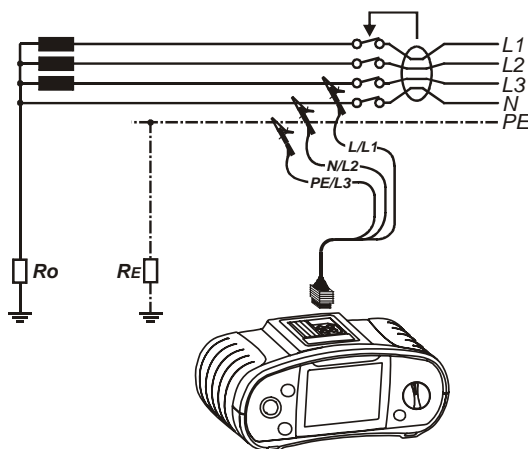

Figure 5.9: Example for resistance to earth measurement
- Connect** test leads to the tested object (see figure 5.9).